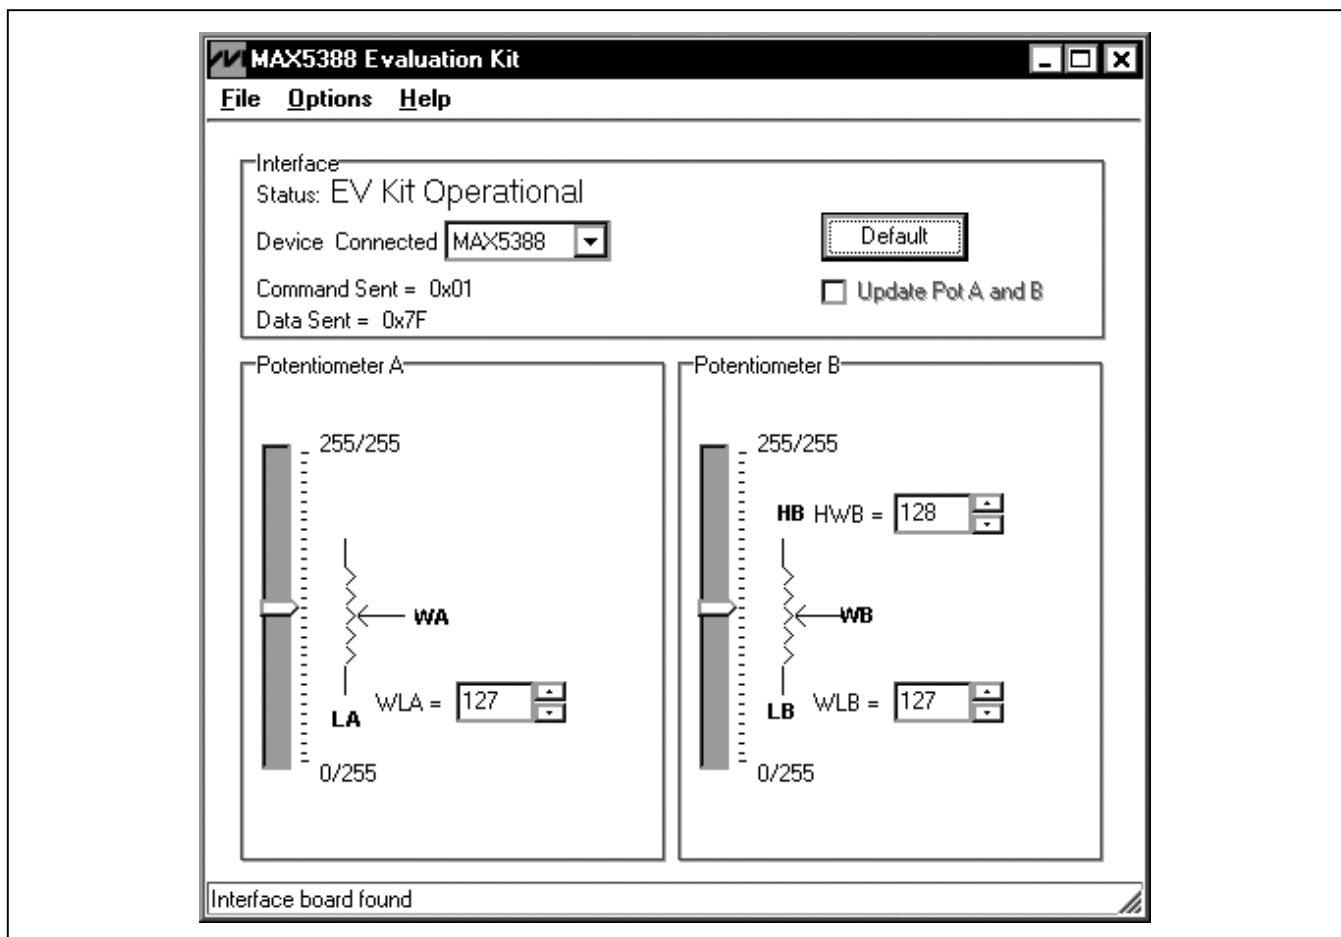
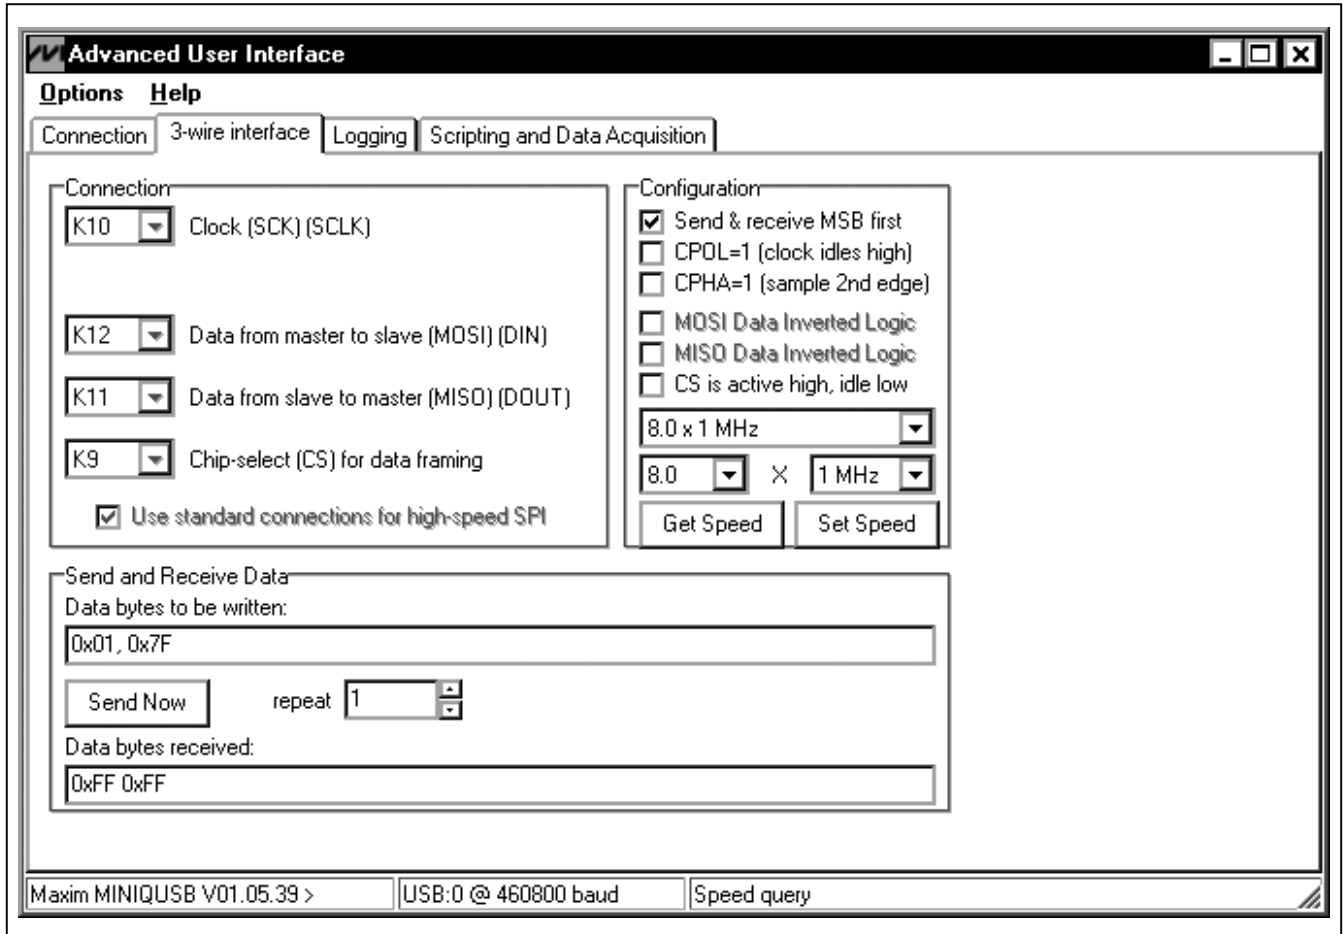

Figure 1. MAX5388 Evaluation Kit Software Main Window
Figure 3. Simple Low-Level 3-Wire Interface
- 10) Using the **Device Connected** combo box, select MAX5388 from the list and then press the **Default** button. The EV kit software main window appears, as shown in Figure 1.
The MAX5388 EV kit software GUI shown in Figure 1 is a Windows program that provides a convenient means to control the MAX5388 dual potentiometer. Use the mouse or press the Tab key to navigate through the GUI controls. The correct SPI write operations are generated to update the MAX5388 internal memory registers when any of these controls are executed.
There are two methods for communicating with the EV kit, through the normal user-interface panel (Figure 1) or through the advanced user interface available by selecting the **3-Wire Interface** (Figure 3) utility from the main program's **Options | Advanced User Interface** menu bar. A window is displayed that allows SPI send/receive data operations.
On the **3-wire interface** tab, the **Connection** group box defines the hardware connections of the interface. For the EV kit, **K10** is selected from the **Clock (SCK)(SCLK)** drop-down list, **K12** from the **Data from master to slave (MOSI)(DIN)** drop-down list is disabled, **K11** from the **Data from slave to master (MISO)(DOUT)** drop-down list, **K9** from the **Chip-select (CS) for data framing** drop-down list, and **Use standard connections for high-speed SPI** checkbox is checked (see Figure 3).
the **Send & Receive MSB first** checkbox and verify that the **CPOL=1(clock idle high)** and **CPHA=1(sample 2nd edge)** checkboxes are unchecked (see Figure 3).
Note: The SPI dialog boxes accept numeric data in hexadecimal format. Hexadecimal numbers must be prefixed by \$ or 0x. Figure 3 shows a simple SPI write-byte operation using the included 3-wire interface diagnostics tool. In this example, the software is sending command 0x01 (write to potentiometer B) and data 0x7F. The data sequence sets the MAX5388 wiper position to 127.